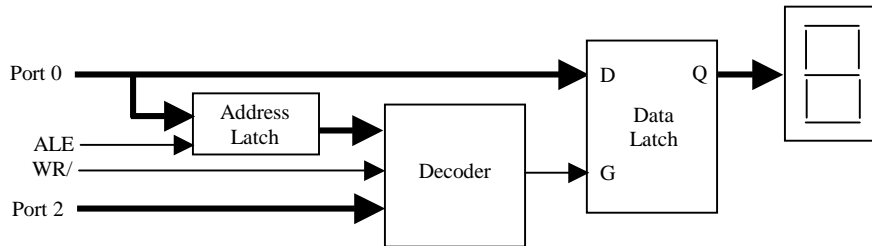

Figure 2 Memory mapped output port
To free up ports on the 8051, external devices can be mapped within the microcontroller's data memory address space. In this case, you can read or write the device by using a MOVX instruction. In this lab, we would like to map the seven-segment display to memory location 0xAA55. We will put a latch there so that data we write will be shown on the seven-segment display, even after the microcontroller has gone on to other tasks. The block diagram is illustrated in Figure 2.
3. Add the registers and decoder to the design within the FPGA. Open the xc4005 sheet. Place your decoder (the decoder symbol) and two instantiations of your register within the sheet. You will be wiring them up similar to Figure 2, so you may want to place them in a similar manner. Wire the latches and decoder to each other and to the seven-segment display and to the address and control lines from the 8031. Use the circuit sketch you made in the preliminary assignment as a guide. The example software (hello.hex) makes the assumption that segment g (P20) is wired to the least significant bit of the data byte (P0.0) so wire the display accordingly. The connections to the seven-segment display on the xc4005 component schematic sheet are not in order so be careful how you wire them up. It’s helpful to relate the xc4005 pins to those shown on the xess40_schematic sheet. Table 1 shows the FPGA/7Seg connections.